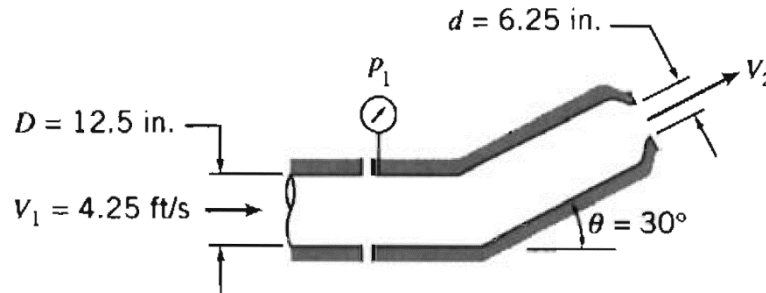

Figure 1
1. Water flows steadily through the nozzle shown in Fig. 1, discharging to atmosphere. Calculate (a) the jet velocity  $V_2$  at the nozzle end, (b) the pressure  $p_1$  at the flanged joint, and (c) the horizontal component of the anchoring force  $F_x$  to keep the nozzle in place. The elevation difference is 12 in. and no loss between the flanged joint and the nozzle end (i.e., between sections 1 and 2). Use  $\rho = 1.94$  slugs/ft3 and  $\gamma = 62.4$  lb/ft3 for water and  $g = 32.2$  ft/s2.